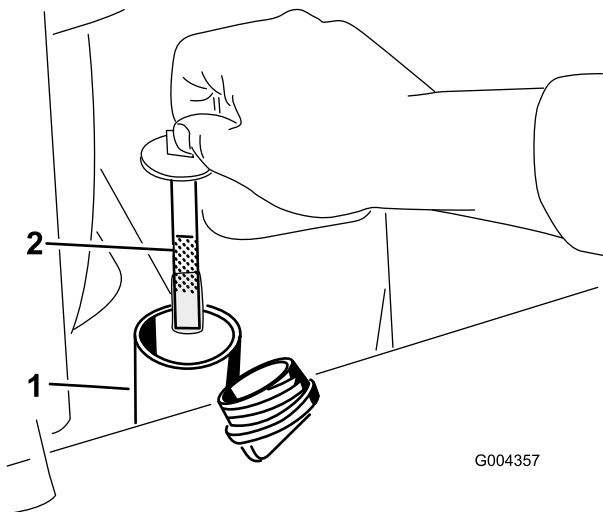

Figure 62
5. Remove the hydraulic-tank cap and dipstick (Figure 62).